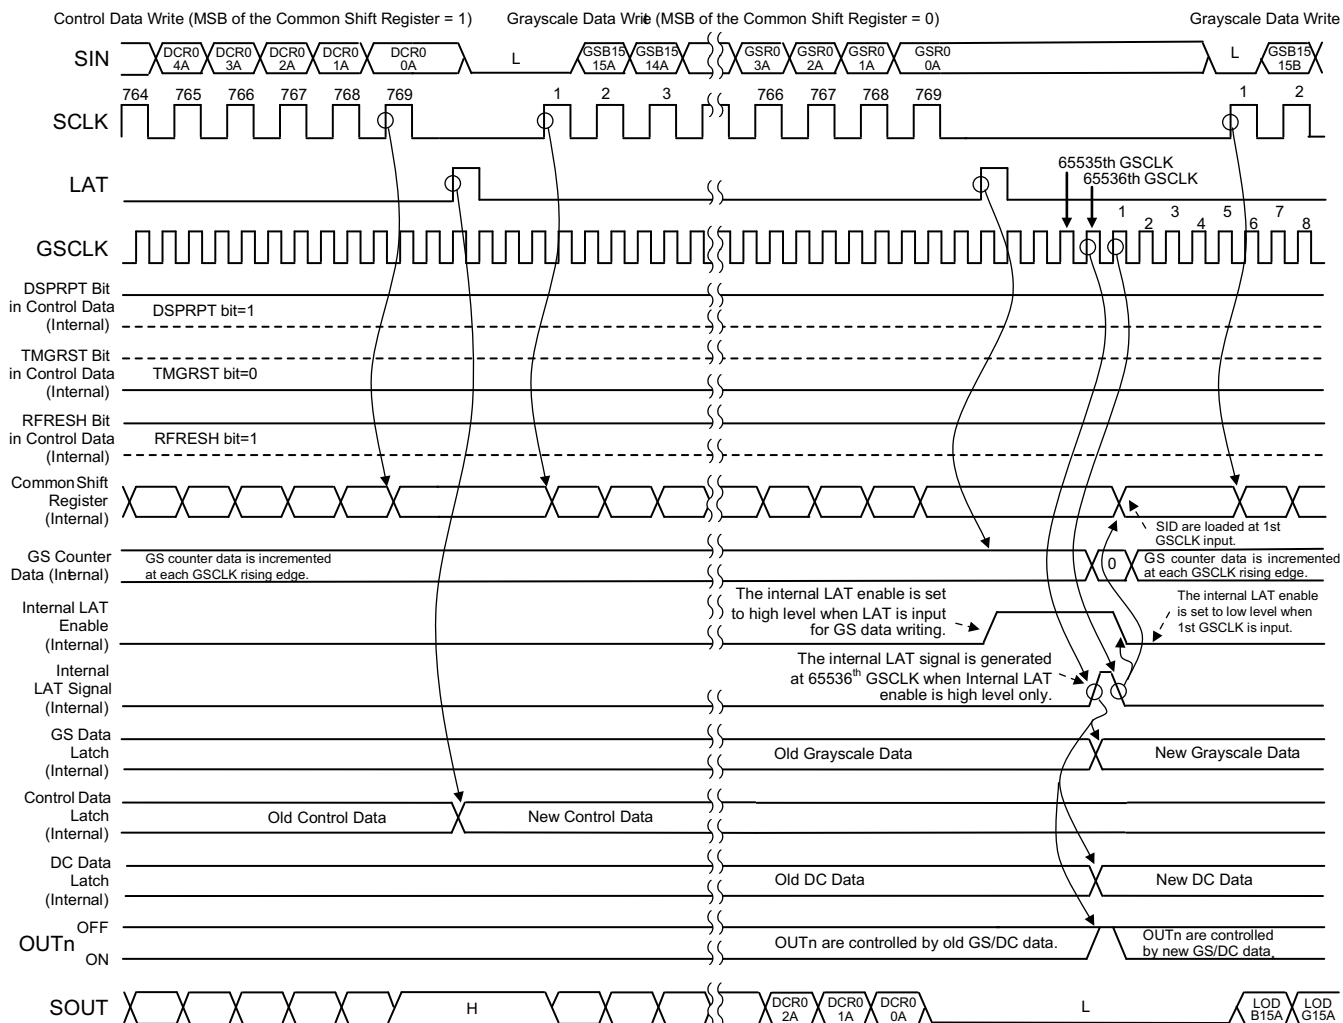
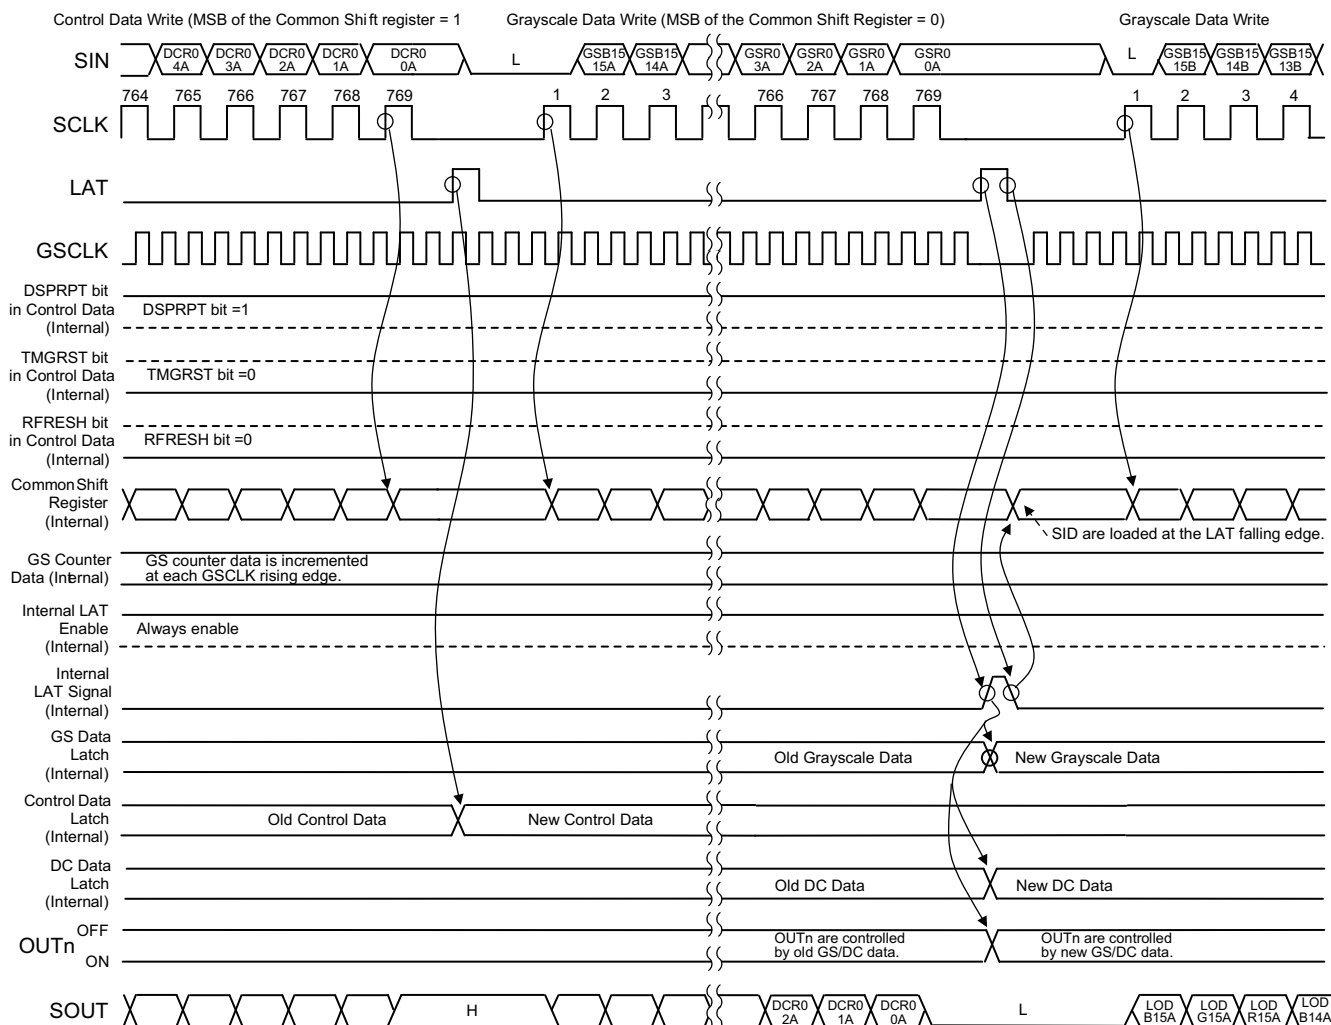

Figure 8-11. Auto Data Refresh Function 1 (DSPRPT = 1, TMGRST = 0, and RFRESH = 1)
Figure 8-12. Auto Data Refresh Function 2 (DSPRPT = 1, TMGRST = 0, and RFRESH = 0)
This function delays updating the grayscale (GS) and dot correction (DC) data until the end of one entire display period. If both DC data and GS data are written by the end of an entire display period, the input DC data are held in the control data latch and the GS data are held in the common shift register. Both DC and GS data are copied to the 336-bit DC data latch and 768-bit GS data latch at the end of an entire display period. The data latches are used for the next display period. GS data are directly copied from the common shift register to the GS data latch. Therefore, GS data must be written after the DC data are written. Furthermore, the GS data in the common shift register must not be changed until all data are copied to the GS data latch. Figure 8-11 and Figure 8-12 show timing diagrams for this function.